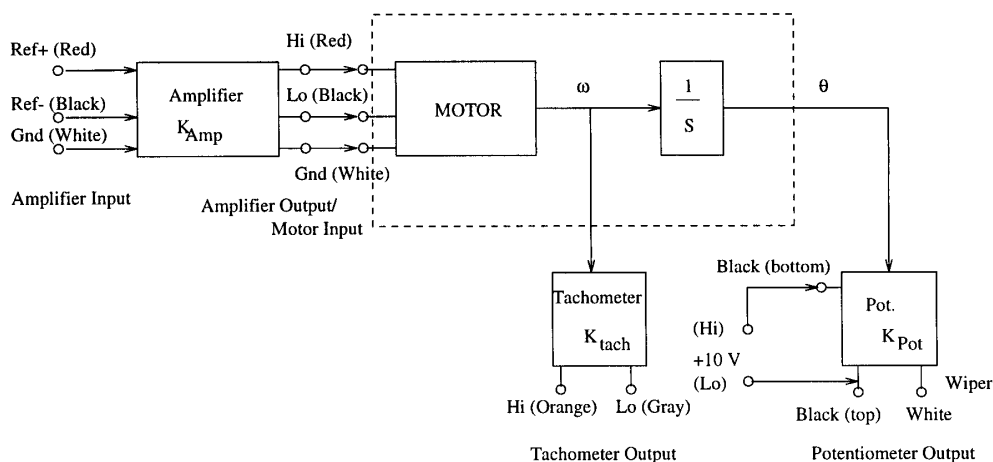
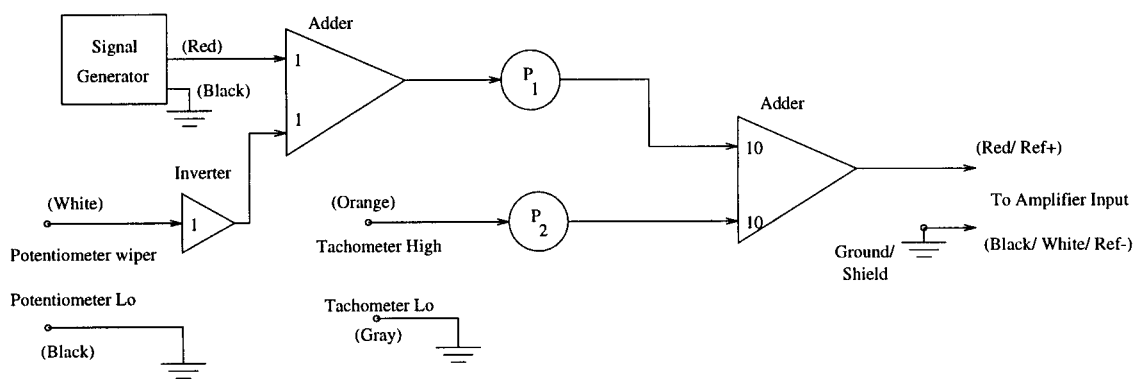

Figure 5.2. Motor Block Diagram.
Figure 5.3. Analog Computer Wiring Diagram.
In the lab, we will connect the system illustrated in Fig. 5.2 to the analog computer set up shown in Fig. 5.3, to form a closed loop system of the form Fig. 5.1. We are then interested in the voltage from the potentiometer, the output of the system, and how it
- (f) Draw a patch panel wiring diagram for the analog computer setup shown in Fig. 5.3 (P_1 and P_2 are variable)
- Connect **Amplifier Input** "Ref-" and "Ref+", respectively, to the black and red coaxial cable banana plugs to the Channel 2 input on the scope. Follow Fig. 5.2 to make the connections.
- Connect the outputs of tachometer and the potentiometer attached to the motor, as illustrated in Fig. 5.2, to the inputs of the analog computer as shown in Fig. 5.3. Connect the output of the analog computer in Fig. 5.3 to the amplifier input in Fig. 5.2, using the color codes indicated in these figures. Your lab bench should be equipped with two of the red/black/white three-lead cables to make connections to the amplifier. Remember to short the black and white leads to the ground of the analog computer when connecting the amplifier input to the analog computer output.
2. Using K and τ from the frequency response identification, compute theoretical values of ζ , ω_n , M_p , t_r , and t_s for each value of P_1 and P_2 , for the system in Fig. 5.2. Use the formulas from Kuo as referenced in Session 1. Now compute the experimental values of M_p , t_r and t_s from the step response data obtained in lab. Discuss your findings, including an explanation of the contribution of Coulomb friction.